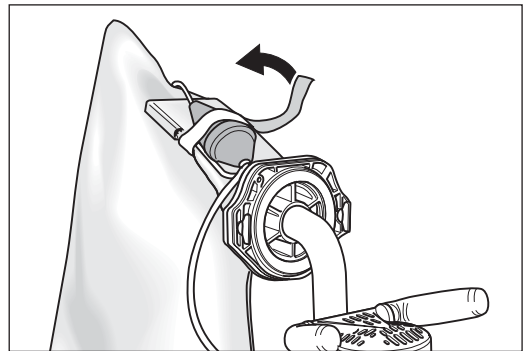

Fig. 6 Attach the extension cable coupler to the dust bag.
- 2 Attach the extension cable coupler to the dust bag using the Velcro loop (Fig. 6).